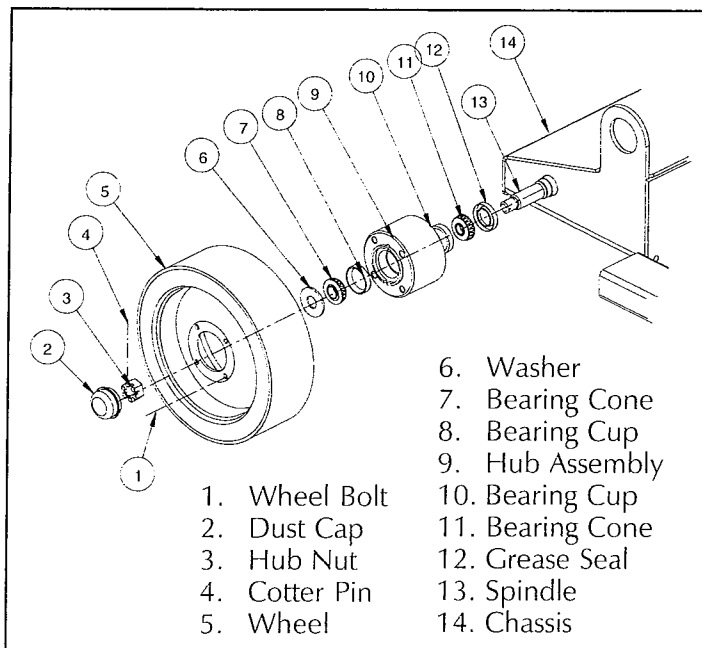

Figure 3-12: Wheel Bearings
3.10 Wheel Bearings (Figure 3-12)